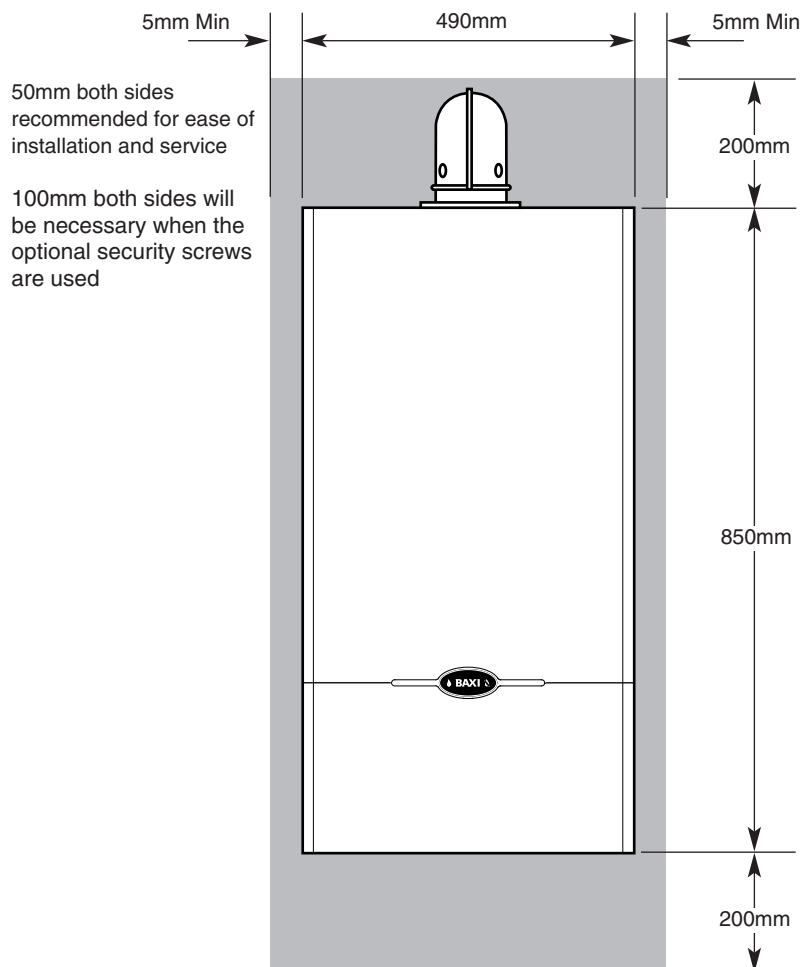

Fig. 5
3.1 Clearances around the Boiler (Figs. 5 & 6)